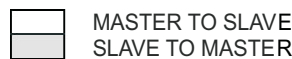

Figure 34. SMBus Write-Word and Read-Word Protocols
The bq24747 receives commands from the SMBus interface. The bq24747 uses a simplified subset of the commands documented in the *System Management Bus Specification V1.1*, which can be downloaded from www.smbus.org. The bq24747 uses the SMBus Read-Word and Write-Word protocols (see Figure 34) to communicate with the smart battery. The bq24747 performs only as an SMBus slave device with address 0b0001001_ (0x12), and does not initiate communication on the bus. In addition, the bq24747 has two identification (ID) registers (0xFE): a 16-bit device ID register and a 16-bit manufacturer ID register (0xFF).
To program the output charge voltage regulation setpoint, use the SMBus to write a 16-bit ChargeVoltage() command using the data format listed in Table 3. The ChargeVoltage() command uses the Write-Word protocol (see Figure 34). The command code for ChargeVoltage() is 0x15 (0b00010101). The bq24747 provides a charge-voltage range of 1.024 V to 19.200 V, with 16 mV resolution. Set ChargeVoltage() below 1.024 V to terminate charging. Upon reset, the ChargeVoltage() and ChargeCurrent() values are cleared and the charger remains off until both the ChargeVoltage() and the ChargeCurrent() command are sent. Both UGATE and LGATE pins remain low until the charger is restarted.
To set the charge current, use the SMBus to write a 16bit ChargeCurrent() command using the data format listed in Table 4. The ChargeCurrent() command uses the Write-Word protocol (see Figure 34). The command code for ChargeCurrent() is 0x14 (0b00010100). When using a 10-mΩ sense resistor, the bq24747 provides a charge-current range of 128 mA to 8.064 A, with 128 mA resolution. Set ChargeCurrent() to 0 to terminate charging. Upon reset, the ChargeVoltage() and ChargeCurrent() values are cleared and the charger remains off until both the ChargeVoltage() and the ChargeCurrent() commands are received. Both UGATE and LGATE pins remain low until the charger is restarted.
To set the input current limit, write a 16-bit InputCurrent() command using the data format listed in Table 5. The InputCurrent() command uses the Write-Word protocol (see Figure 34). The command code for InputCurrent() is 0x3F (0b00111111). When using a 10-mΩ sense resistor, the bq24747 provides an input-current limit range of 256 mA to 11.008 A, with 256 mA resolution. InputCurrent() settings from 1 mA to 256 mA result in a current limit of 256 mA. Upon reset the input current limit is 256 mA.